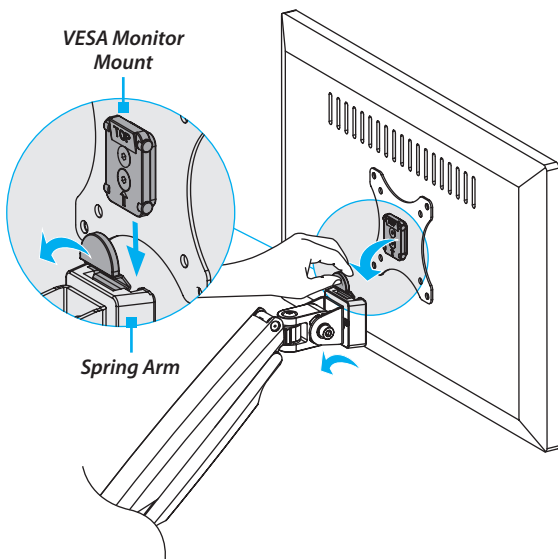

Figure 12
5. Pull the tab on the **Spring Arm (1)**, and slide the **VESA Monitor Mount** and monitor into the mount on the **Spring Arm**. (Figure 12)